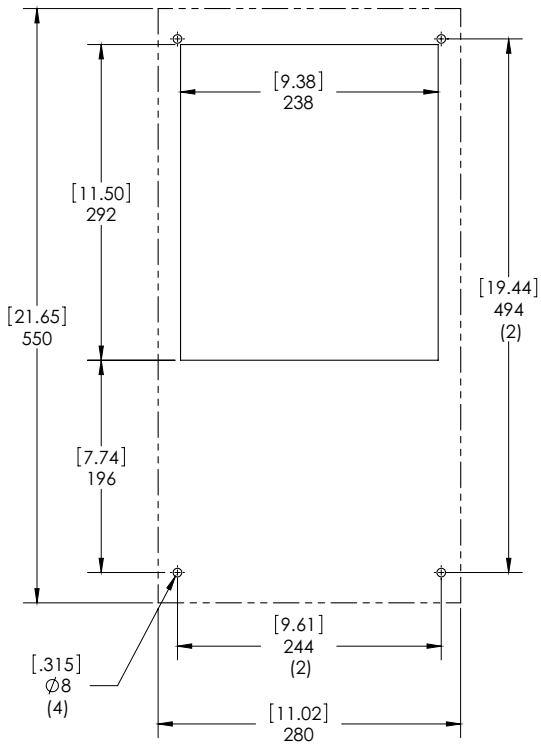
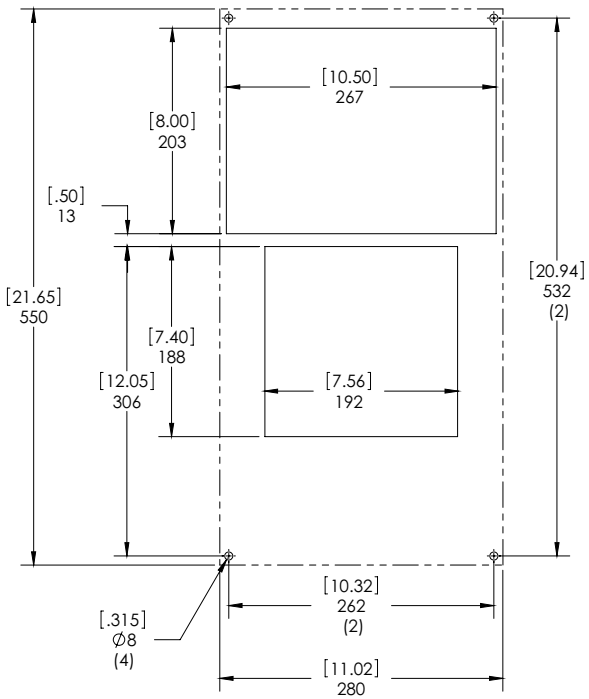
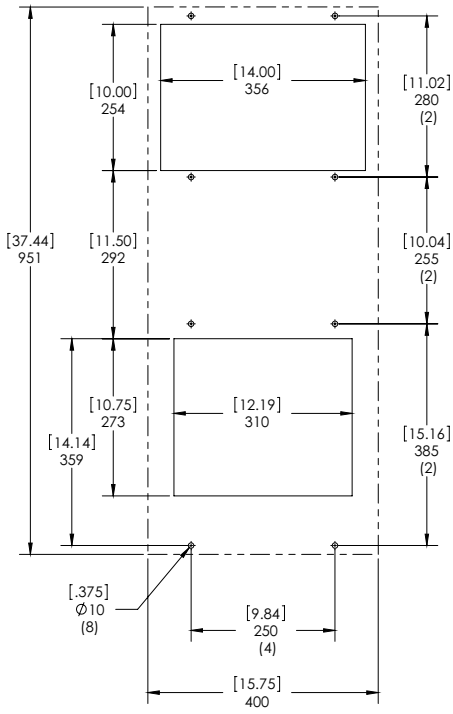
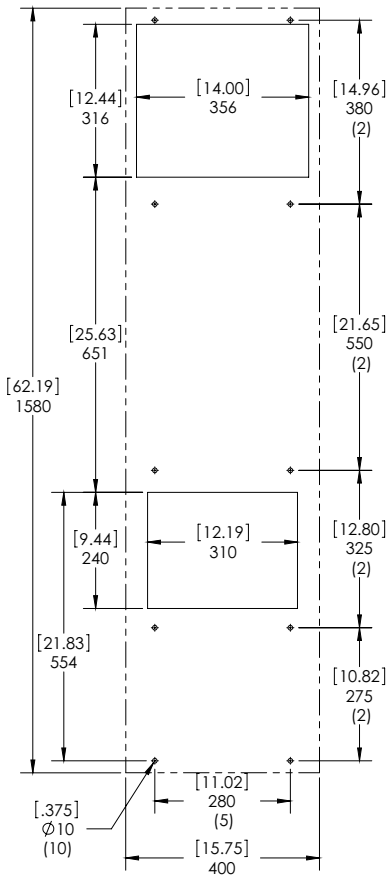

Figure 5
Figure 6
Figure 7
Figure 8
- See Figure 5 or Figure 6 or Figure 7 or Figure 8 or Figure 9 for the enclosure cutout diagrams, depending on the unit being installed.